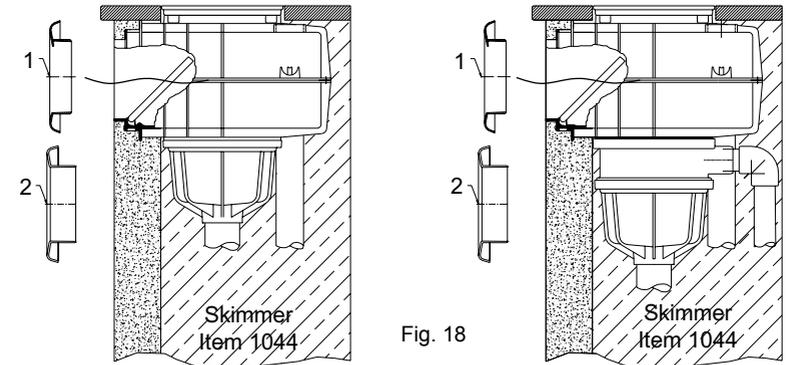

Fig. 18
3.3 Installing V20 and VS30 skimmers with recessed gasket and caulking layer (Fig 18)